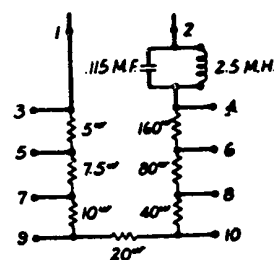

FIG. 2
6.06 The schematic of the 23A equalizer is shown in Figure 2.
6.09 The 15KC equalizer may be used in lieu of a 23A equalizer by selecting similar values of inductance and capacitance as shown for the 23A equalizer. (See Figure 2.)
tuned circuits of the equalizer by selecting similar values of inductance and capacitance shown for the 23A equalizer (see Figure 2). When the 15KC equalizer is used for Schedule A and B circuits, make a frequency measurement at 8KC to assure that a high level of more than 4 db is not present. Where a high level at 8KC is measured, a change in the inductance and capacitance will be required. Use Chart 1 to maintain 9.4KC resonance.